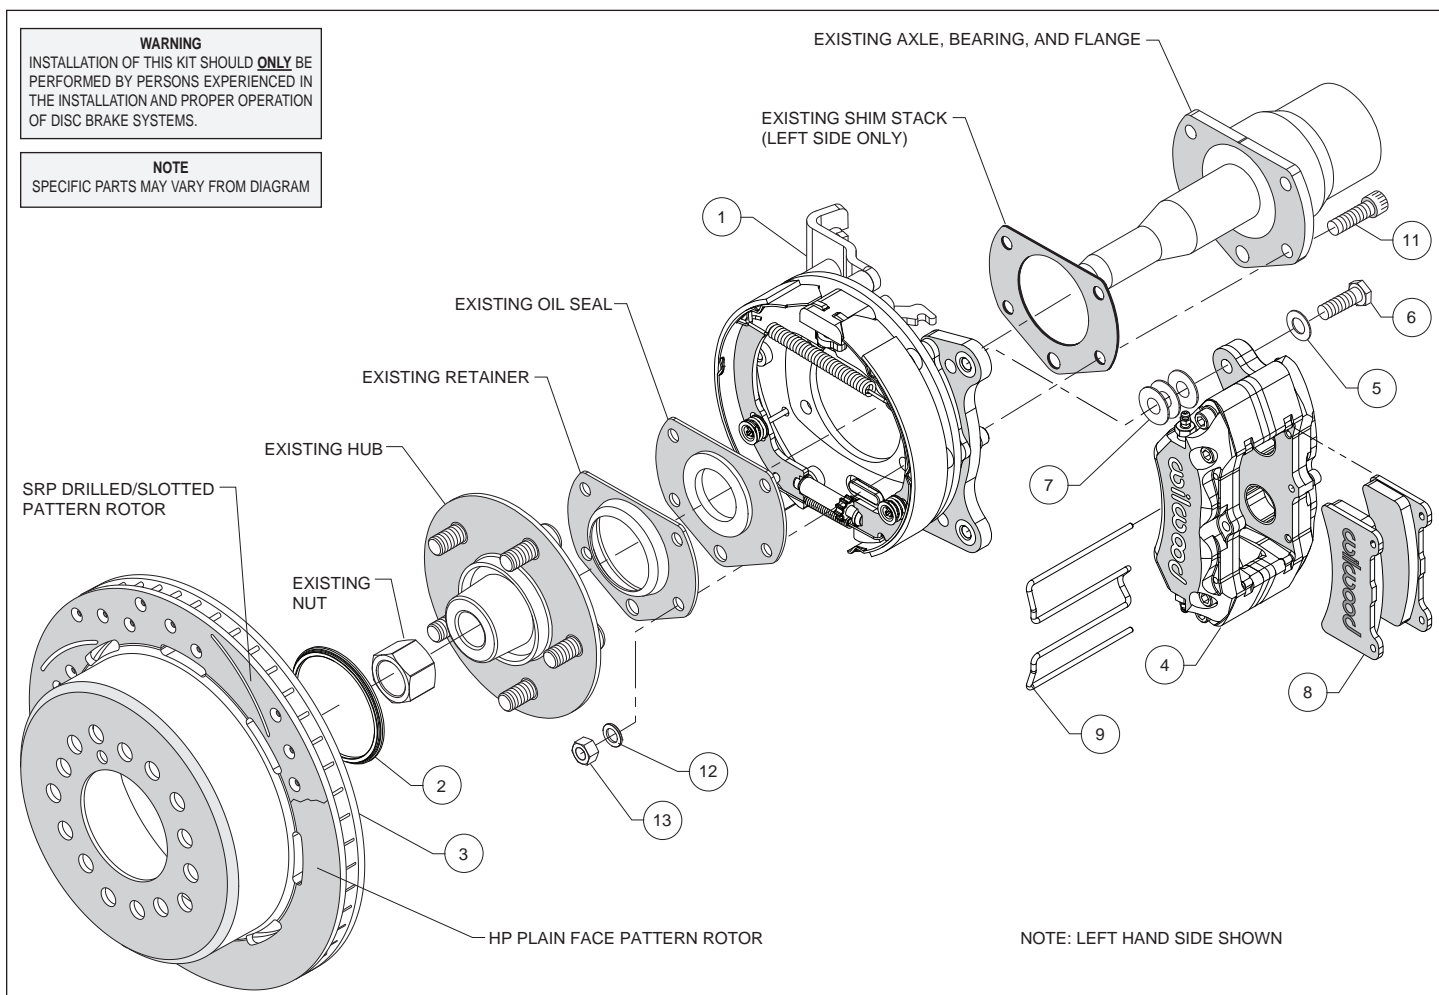
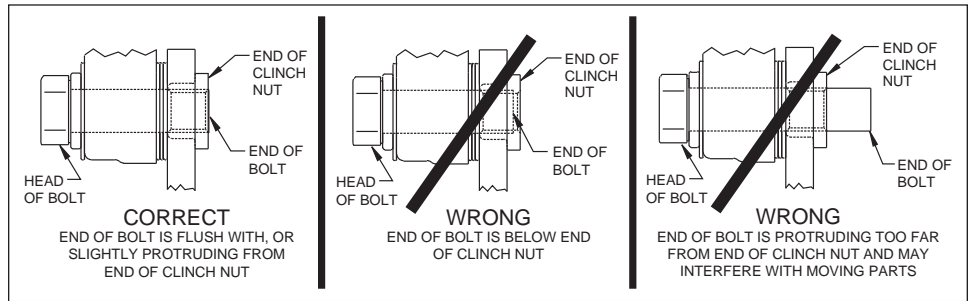

Figure 1. Typical Installation Configuration
Figure 4. Clinch Nut Engagement Diagram
Remove the rear wheels and disassemble the drum brake assembly down to the bare axle. Save the OEM retainer and left side axle flange shim stack. Refer to Figure 1.
Assembly Instructions (numbers in parenthesis refer to the parts list, and Figure 1 on the preceding pages): **CAUTION:** All mounting bolts must fully engage clinch nuts. Be sure to check that all bolts are either flush or protruding through flanged side of clinch nut after shimming, Figure 4.
- Orient the bracket assembly (1), as shown in Figure 1, and Photo 2. Install a new OEM seal plate (not included), Photo 3, and OEM retainer, Photo 4. Secure using bolts (11), washers (12), and nuts (13). Apply red *Loctite*® 271 to the bolt threads and torque nuts to 40 ft-lb.
- Slide the rotor registration adapter (2) onto the axle register on the axle flange with the smaller O.D. facing toward the rotor/hat (3), Photo 5. Align the correct hole pattern in the rotor/hat with the stud pattern on the axle flange and slide into place, Figure 1 and Photo 6. **NOTE:** The rotor/hat must fit flush against the axle flange or excessive rotor run out may result. Install three lug nuts (finger tight) to keep the rotor/hat assembly in place while continuing with the installation. **NOTE:** Some OEM and after market axles come with stud sizes larger than 0.50" diameter. Verify stud size and have a qualified machine shop drill the bolt circle of the hat/rotor to the correct stud size, if necessary.
•**NOTE:** Please reference the caution statement at the beginning of the assembly instructions. Mount the caliper (4) onto the caliper mounting bracket (1) using bolts (6) and washers (5), as shown in Figure 1. Initially place three .035" thick shims (7) on each bolt between the caliper and the bracket, Photo 7. Temporarily tighten the mounting bolts and view the rotor (3) through the top opening of the caliper. The rotor should be centered in the caliper, Photo 8. If not, adjust by adding or subtracting shims between the bracket and the caliper. Always use the same amount of shims on each of the two mounting bolts. **NOTE:** The end of each bolt must be flush with or slightly protruding from the head of the clinch nut, as shown in Figure 4. If necessary place spare shims between washer (5) and caliper mounting ear to achieve the proper clinch nut engagement. Once the caliper alignment and clinch nut engagement are correct, remove the bolts one at a time, apply red *Loctite*® 271 to bolt threads, and torque to 40 ft-lb.